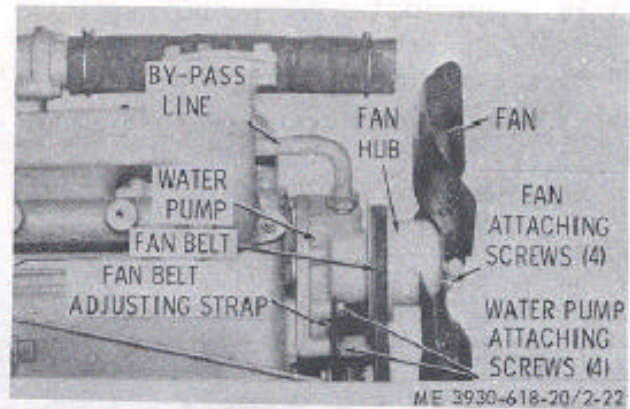

Figure 2-22. Water pump, installed view.
b. Removal. Refer to figure 2-22 and remove the water pump as follows: